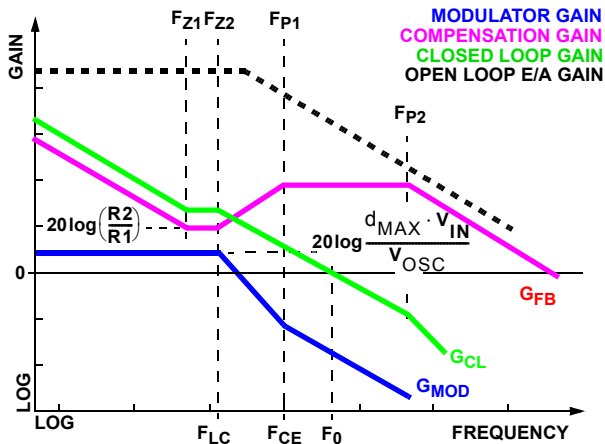

FIGURE 10. ASYMPTOTIC BODE PLOT OF CONVERTER GAIN
Figure 10 shows an asymptotic plot of the Buck converter’s gain vs. frequency. The actual modulator gain has a high gain peak dependent on the quality factor (Q) of the output filter, which is not shown. Using the above guidelines should yield a compensation gain similar to the curve plotted. The open loop error amplifier gain bounds the compensation gain. Check the compensation gain at F_{P2} against the capabilities of the error amplifier. The closed loop gain, G_{CL} , is constructed on the log-log graph of Figure 10 by adding the modulator gain, G_{MOD} (in dB), to the feedback compensation gain, G_{FB} (in dB). This is equivalent to multiplying the modulator transfer function and the compensation transfer function and then plotting the resulting gain.